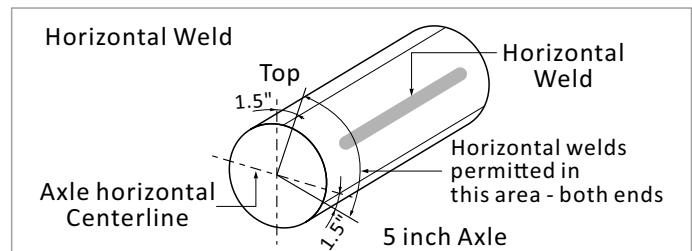

FIGURE 13
- » Horizontal welding is not allowed on 5-inch (127 mm) diameter axles more than 1.50-inches (38.1 mm) below the axle horizontal centerline. (Figure 13)